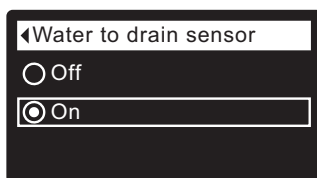

FIG. 91
7. Press the SELECT (O) button to display the Water to drain sensor screen (See Figure 91).